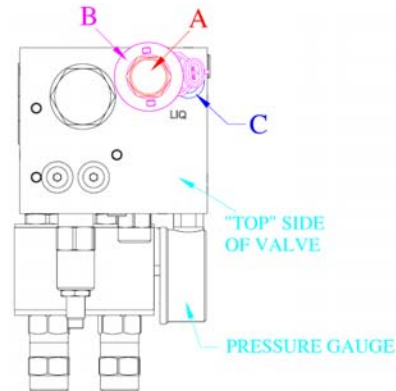

Figure 2
- Install item “C” where item 2 was (torque to 20 ft lbs.) (See Figure 2).
- Next install Item “A” where item 1 was (torque to 35 ft lbs.) (See Figure 2).
- Then install item “B” onto item “A”, tighten nut snug. (See Figure 2)